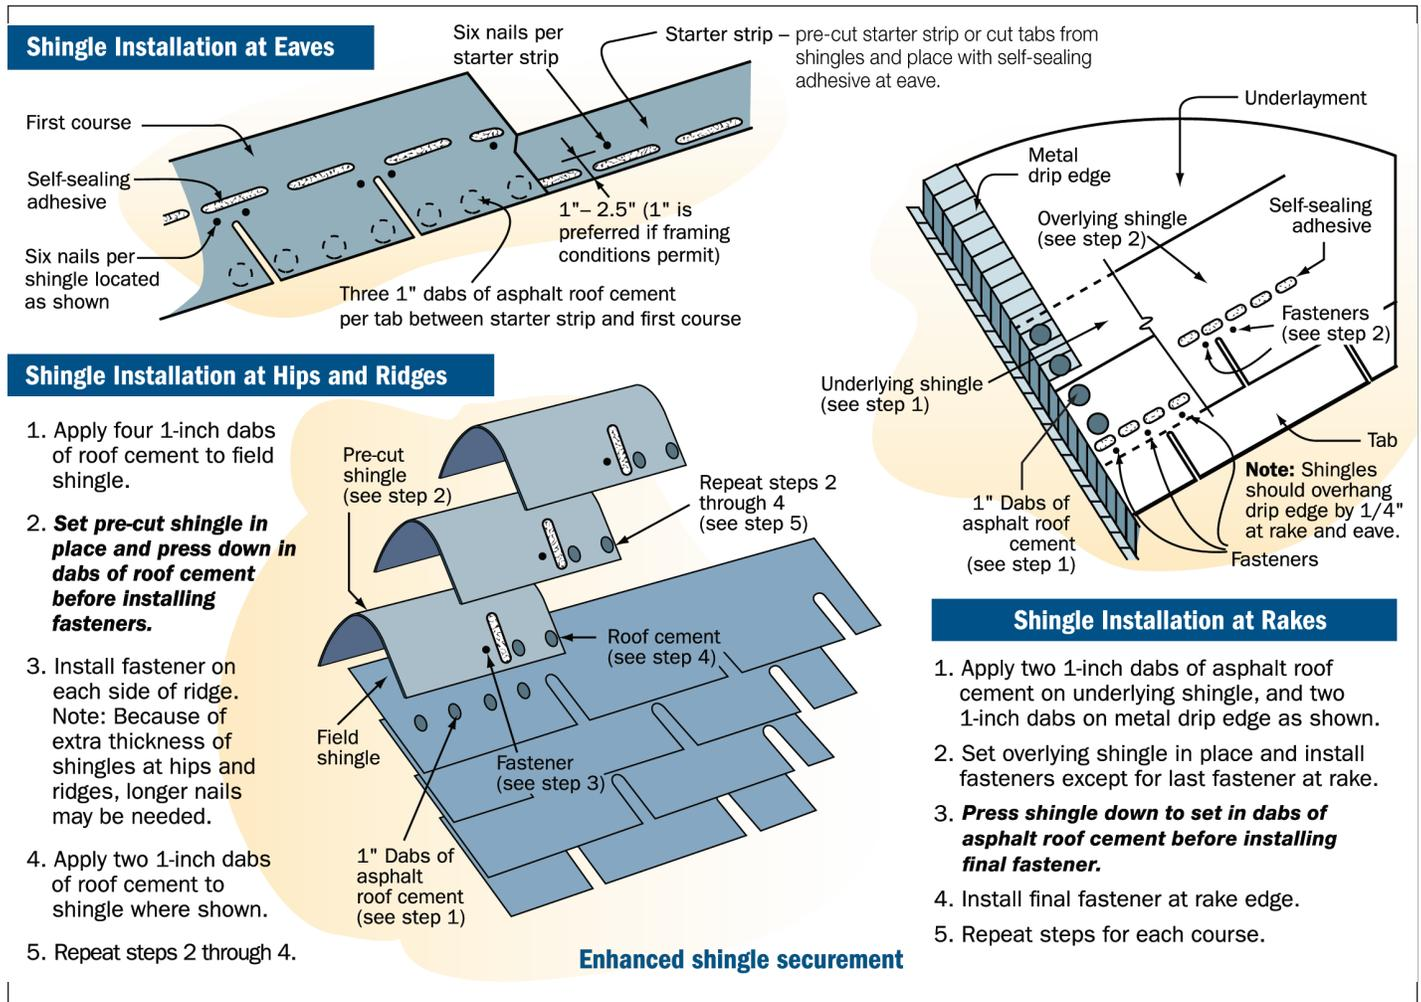

Figure 1: Enhanced shingle securement
1. Follow shingle installation procedures for enhanced wind resistance, including the asphalt roof cement and nailing guidance shown in Figure 1.